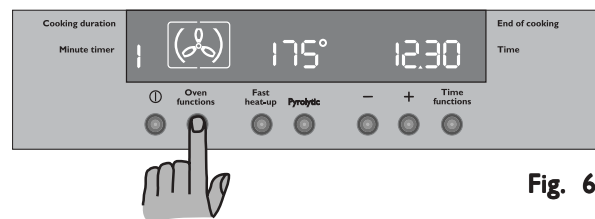

Fig. 6
1) Switch on the oven by pressing the ① button.
2) Press Oven functions button to select the required oven function. Each time Oven functions button is pressed, a cooking symbol will appear in the display and the corresponding cooking function number will appear to the left of the currently selected cooking function symbol (Fig. 6).